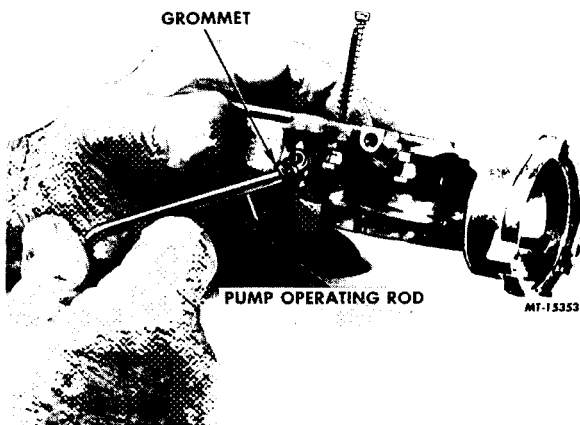

FIG. 17 Remove or Install Accelerator Pump Operating Rod and Grommet
6. Rotate the pump operating rod and remove the rod and grommet from the bowl cover (Fig. 17).